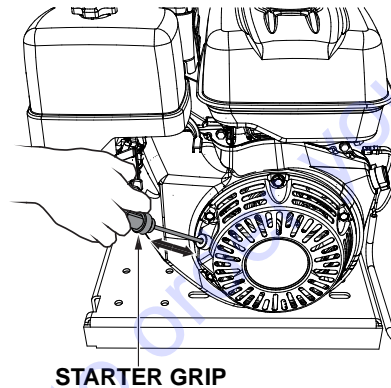

Figure 23. Starter Grip
- Pull the **starter grip** (Figure 23) lightly until you feel resistance, then pull briskly. Return the starter grip gently.